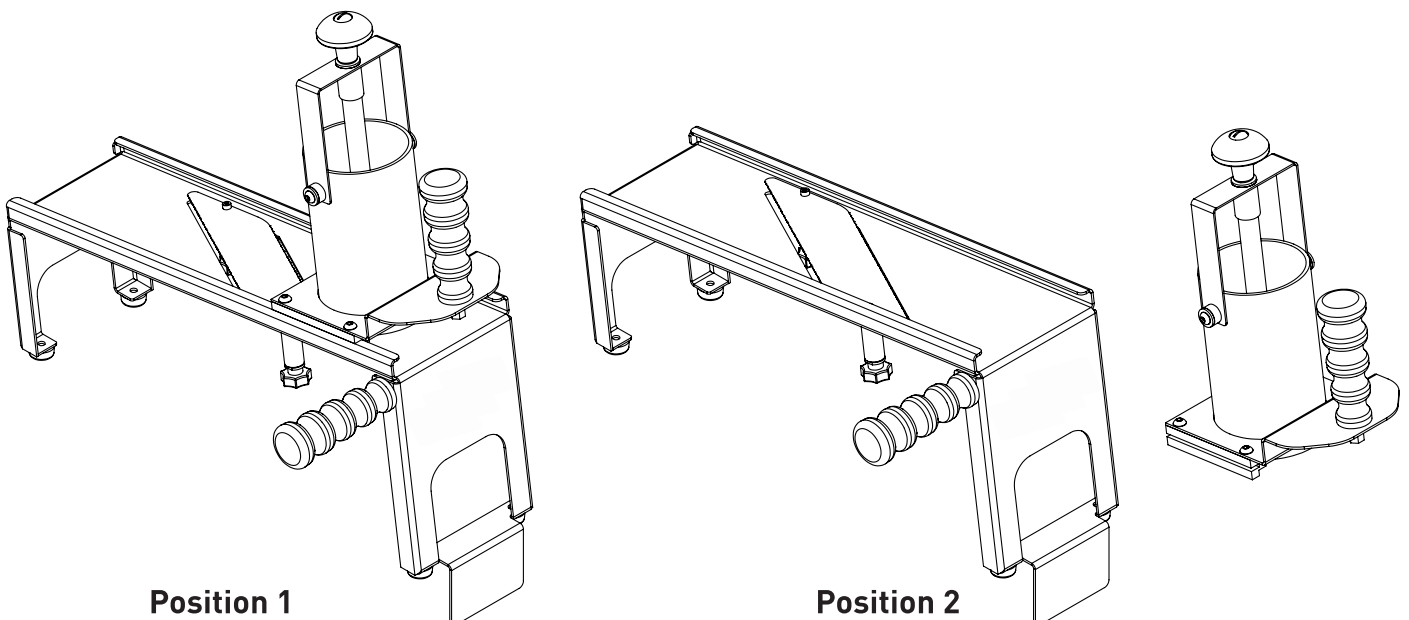

**Figure 4.2.5**
- Move the Pusher Lever back and forth. **(Figure 4.2.5)**